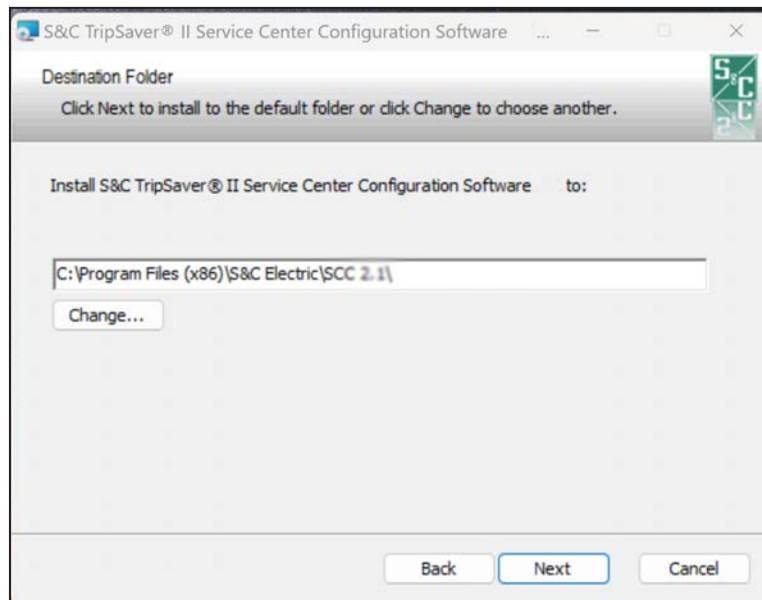

Figure 5. The dialog box for selecting the destination folder.
- STEP 4.** The next dialog box to open allows the installer to select the installation folder. Click on the **Change** button to select a specific destination folder, or use the default folder shown. Click on the **Next** button to continue, or click on the **Cancel** button to quit the installation process. Click on the **Back** button to go back to the previous step. See Figure 5.